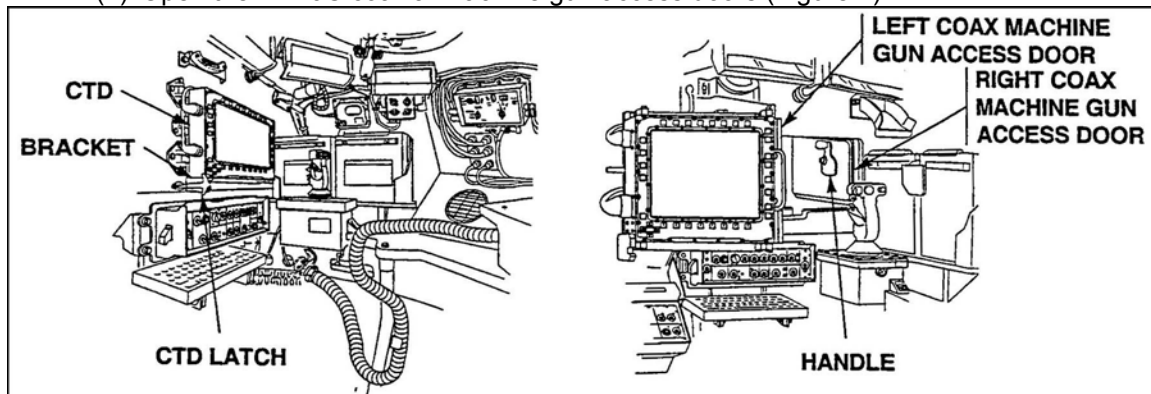

Figure 2. M240C coaxial machine gun access doors.
(2) Move the turret drive system switch on the SCB to OFF.
(3) Announce COAX MISFIRE to the crew over the intercommunications set.
(4) Open the M240C coaxial machine gun access doors (Figure 2).